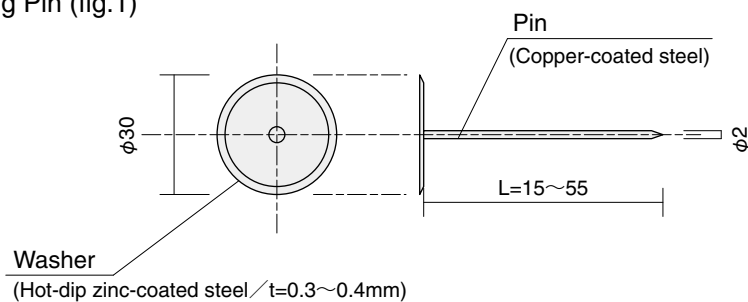

fig. 1 Welding Pin
- ③ Fix method: Welding Pin (fig.1)